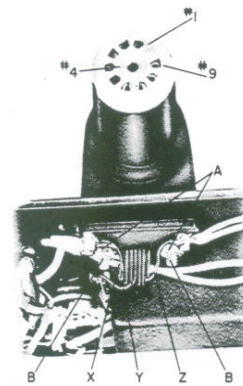

Figure 4-10. Interior view showing mounting of the swivel-support assembly, pivot blocks, and connections.
To replace the swivel-support assembly (see Figure 4-10):
- Loosen (do not remove) two nuts (A, Figure 4-10) and slide the two pivot blocks apart. (The heads of the two screws (B) clamp the pivot blocks in position when nuts (A) are tightened.)
- Insert leads (X, Y, Z) through the slot between screws (B), and hold the swivel-support assembly in position between the two pivot blocks.
- Slide the pivot blocks together and tighten nuts (A). The pivot action of the swivel-support assembly may need readjustment; if so, loosen either nut (A), adjust the corresponding pivot block, and retighten the unit.